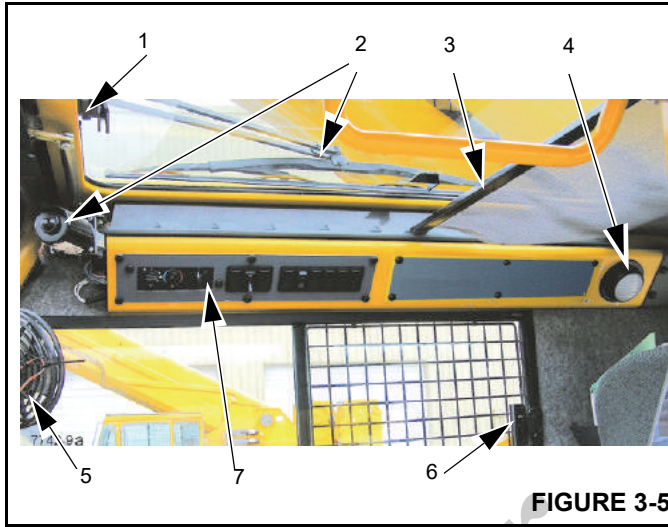
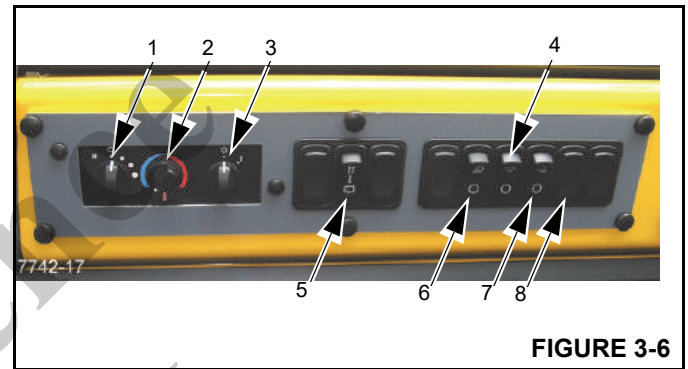

FIGURE 3-5
FIGURE 3-6
Refer to Figure 3-5.
The Skylight Wiper (2) is controlled by the wiper switch, (5) (Figure 3-6), and operated by the indicated motor.
Refer to (7) Figure 3-5 and Figure 3-6.
The Engine Exhaust System Cleaning Switch (8) (Figure 3-6) is located on the right side of the overhead control panel. This switch is a three position switch, Inhibit Regen/Permit Regen/Start Regen. Press this switch to start Exhaust System Cleaning or to disable Exhaust System Cleaning:
With the engine running press and release the top of the switch (9) (Figure 3-6) to increase the engine to full throttle. Press and hold the switch to slowly increase the engine rpm.